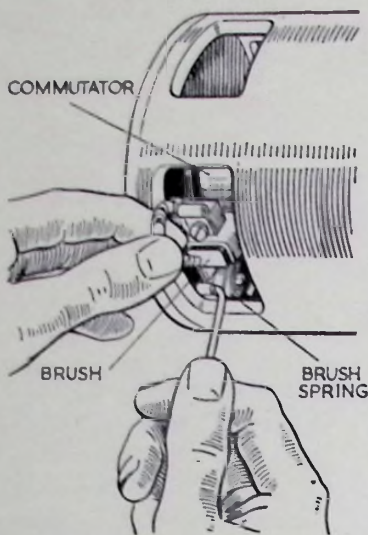

Fig. 2. Checking Brushes.
- (1) Inspect the driving belt and adjust if necessary. See *Service BX3*.
- (2) Check that the dynamo and control box are connected correctly, see *Fig. 2, Page JX2*. The dynamo terminal "D" must be connected to control box terminal "D" and dynamo terminal "F" to control box terminal "F".
- (3) Switch off all lights and accessories, disconnect the cables from terminals of dynamo marked "D" and "F", and connect the two terminals with a short length of wire.
- (4) Start the engine and set to run at normal idling speed.
- (5) Clip the negative lead of a moving coil type voltmeter, calibrated 0—20 volts, to one dynamo terminal and the other lead to a good earthing point on the yoke.
- (6) Gradually increase the engine speed, when the voltmeter reading should rise rapidly and without fluctuation. Do not allow the voltmeter reading to reach 20 volts and do not race the engine in an attempt to increase the voltage. It is sufficient to run the dynamo up to a speed of 1000 r.p.m.